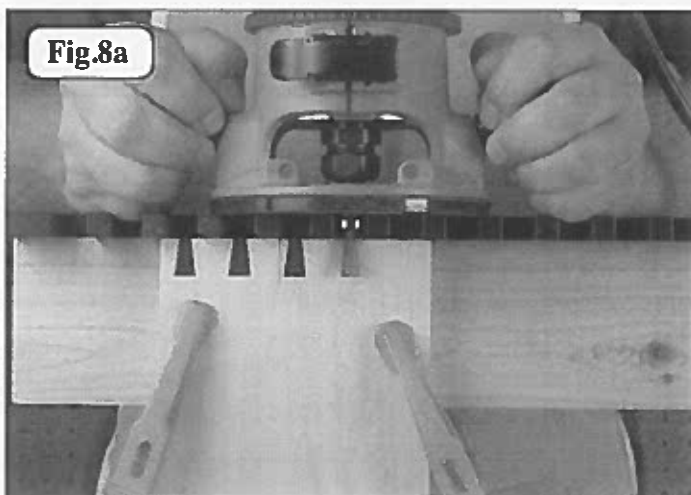

Fig.8a
F. (Always wear eye protection) Cut your stock standing behind mounting block. See Fig. 8a. This will allow you to pull the router towards you while making the cut, giving you a smoother, more controllable cut. This also will keep the wood chips directed away from you. Place your router flat on top of the dovetail jig surface with the bit in between one of the openings. Be sure the cutter is not contacting the wood surface before turning your router on. Holding the router firmly, turn it on, and guide the bearing and router bit through each of the tail side openings, pulling the router all the way back to each of the tail slots, See Fig. 8a.